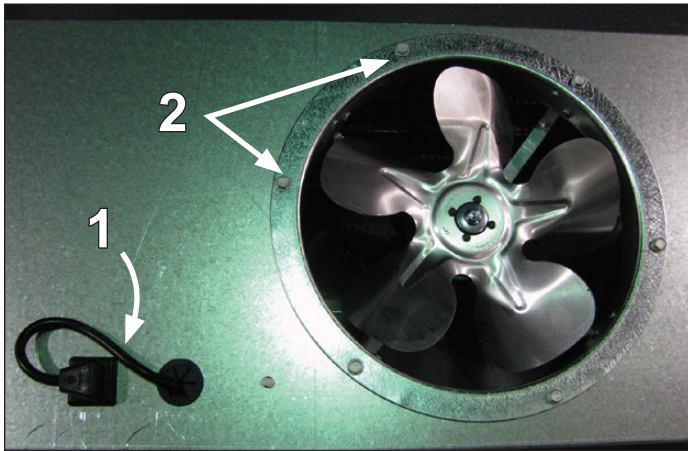

Fig. 21 Fan basket
1. Unplug the fan motor (Fig. 21), easily accessible outside the plenum. Be certain to push the power cord back through the plenum opening to avoid damage to the power cord.